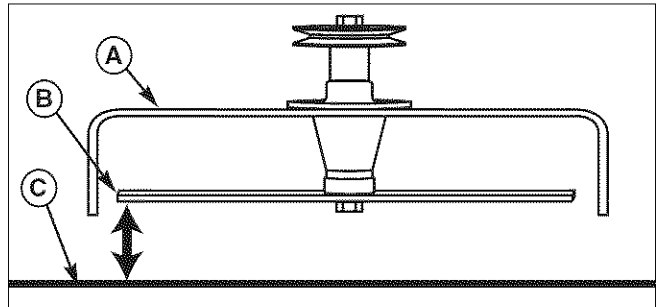

Figure 32. Measure Blade Tips to Ground
7. Measure the distance from the ground to the front tip of the center blade, and from the ground to rear tips of left-hand and right-hand blades (Figures 32 & 34). The front tip of the center blade should be 1/4" (6mm) higher than rear tips of left-hand and right-hand blades. If not, proceed with steps 8 - 11.